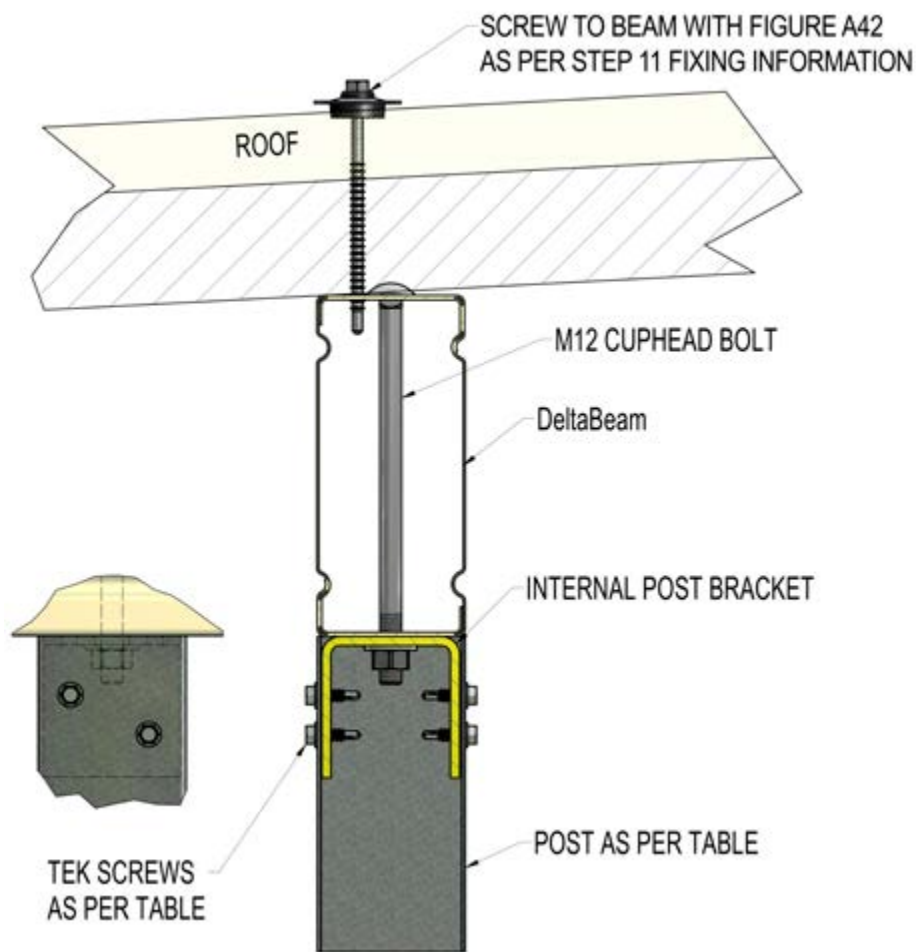

Figure A28
**Delta™ Steel or Aluminium Beam to Post (see Figure A28)**